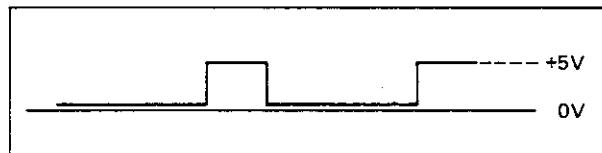

Fig. 6-15 Blanking Signal
- (3) Check that the blanking signal (Z" IN.) as shown in Fig. 6-15 is observed at Pin 13 of Connector P2.